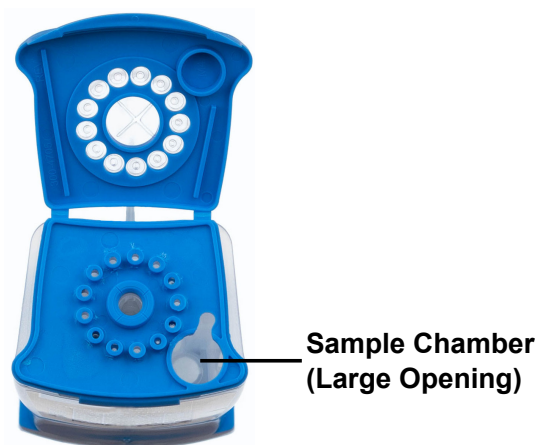

Figure 22. Xpert Xpress CoV-2 *plus* Cartridge (Top View)
15. To transfer the sample to the cartridge, squeeze the top bulb of the pipette completely again until it is fully flat to empty the contents of the pipette (300 μ L) into the large opening (Sample Chamber) of the cartridge shown in Figure 22. Some liquid may remain in the overflow reservoir. Dispose of the used pipette.